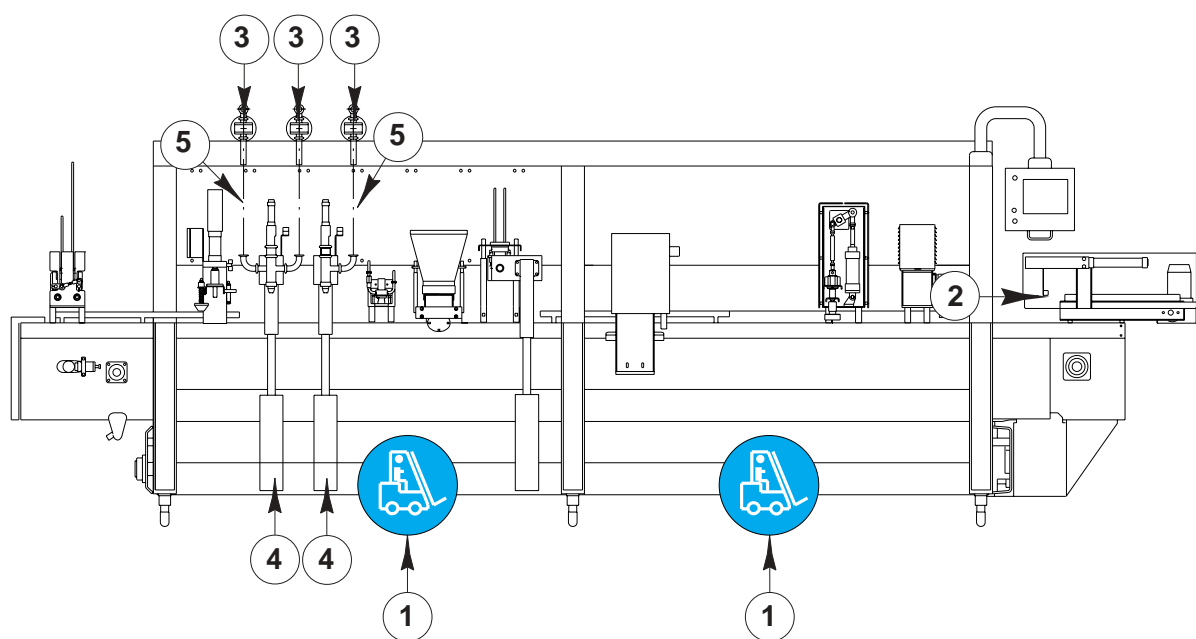

Fig. 4.1
- Press the Jog button and check that the shutters move from left to right (*Part 2 Fig.4.1*) looking at the machine from the operator's side.
Make sure that the bypass valves of the ice-cream pipes (*Part 3 Fig.4.1*) are connected to the dosers (*Part 4 Fig.4.1*) as required.